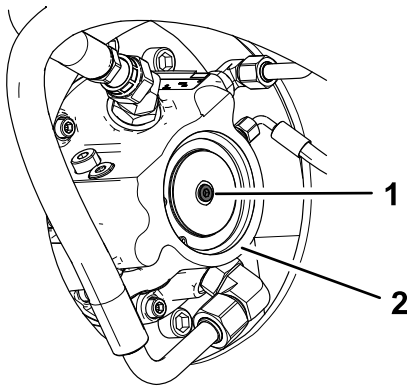

Figure 27
3. For each drive motor, remove the plug and install a screw (M8–1.25 x 40 mm) and washer (M8 x 16 mm) in its place (Figure 27). Hand-tighten the hardware.